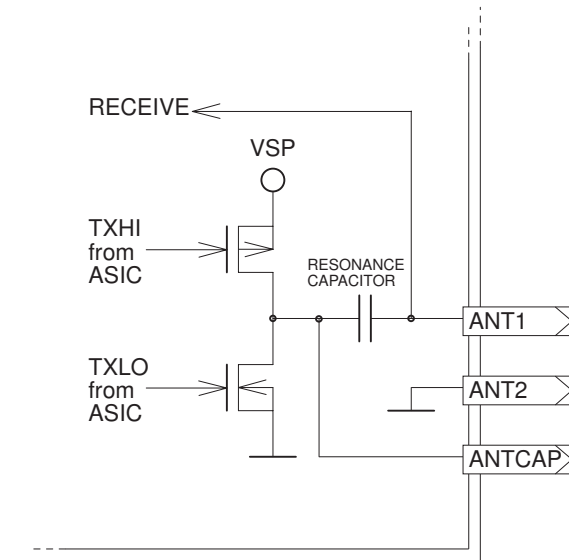

Figure 1-4. Antenna Circuit Block Diagram
- RESET- (4)** Taking this pin to GND holds the Micro-reader in reset. If the reset pin is not used it can be left disconnected as it is internally pulled up. Minimum pulse duration to perform a reset is 1 ms. After a reset the processor takes between 28 ms and 132 ms (typically 72 ms) before it can receive new instructions via the serial communications interface.
- RXD (5)** Input configured to receive serial data commands at 9600 Baud, 1 start bit, 8 data bits, no parity and 1 stop bit.
- TXD (6)** Output configured to transmit serial data at 9600 Baud, 1 start bit, 8 data bits, no parity and 1 stop bit.
- ANT1 (16)** Antenna pin for the connection of 47 μ H, low Q antennas.
- ANTCAP (17)** It is possible to use antennas of lower inductance by connecting a suitable capacitor between ANT1 and ANTCAP. This additional capacitor (ceramic, 100 VDC) will be in parallel with the 30 nF resonance capacitor on board the Micro-reader (see Figure 1-4 and Appendix C).
- ANT2 (19)** Antenna pin (GND) for the connection of 47 μ H, low Q antennas.
- GNDP (21)** Pin 21 is ground for the output stage.
- VSP (22)** Pin 22 is for connecting the positive supply voltage (5 V) for the output stage.
- VSL (24)** Pin 24 is for connecting the positive supply voltage (5 V) for the logic part.
- CRDM (26)** Supplying pin 26 with a logic high signal causes the Micro-reader to run in a continuous charge-only read mode (see Section 1.2.5 for more information).